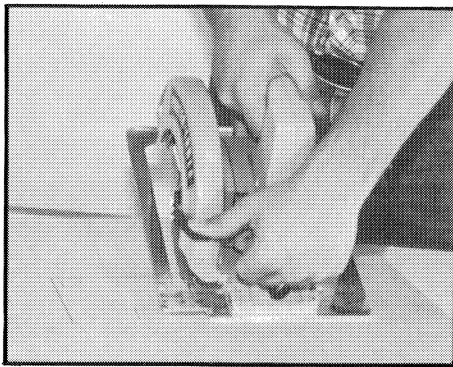

Fig. 13
A Pocket cut is one which must be made inside the area of the material and not starting from the edge. Mark the area clearly with lines on all sides. Start near the corner of one side and place front edge of saw base firmly on the work. Hold saw up so blade clears the material. Be sure you have adjusted the blade properly for depth of cut. Push the telescoping guard lever all the way back so the blade is exposed as shown in Fig. 13. Start the motor and lower the blade into the work. After the blade has cut thru, and the base rests flat on the work, follow the line right up to the corner. Use a keyhole or bayonet saw to cut the corners out clean.
It is recommended that your saw be lubricated after each 50 hours of use. A grease cup (A) Fig. 13, is located at the rear of the gear housing between the handle and blade well. Clean the grease cup and surrounding area. Remove the cap and fill it with Porter-Cable Gear Lubricant Catalog No. 48230. Install the grease cap on the grease cup body and screw it on as far as it will go to force the lubricant into the gear chamber.